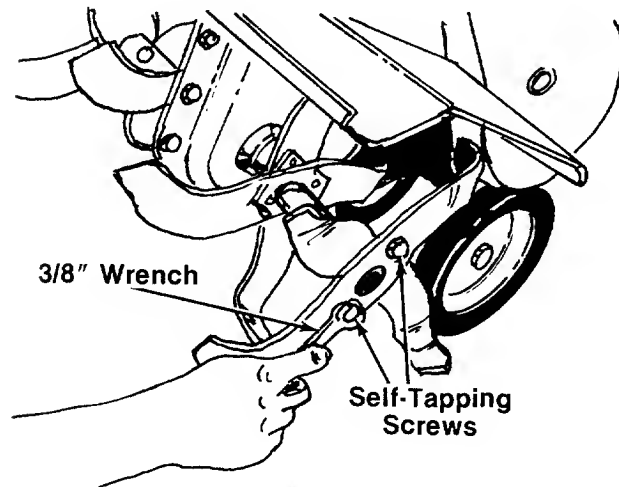
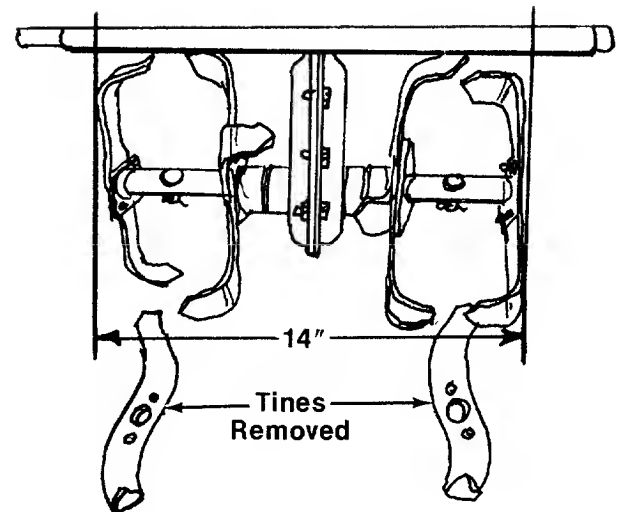

FIGURE 16.
FIGURE 17.
2. A narrower width (14 inches) can be obtained by removing both outer tines. Use a $\frac{3}{8}$ " wrench to remove the two self-tapping screws on the outside of the tines. See figure 16. Replace the first tine removed as shown in figure 17.